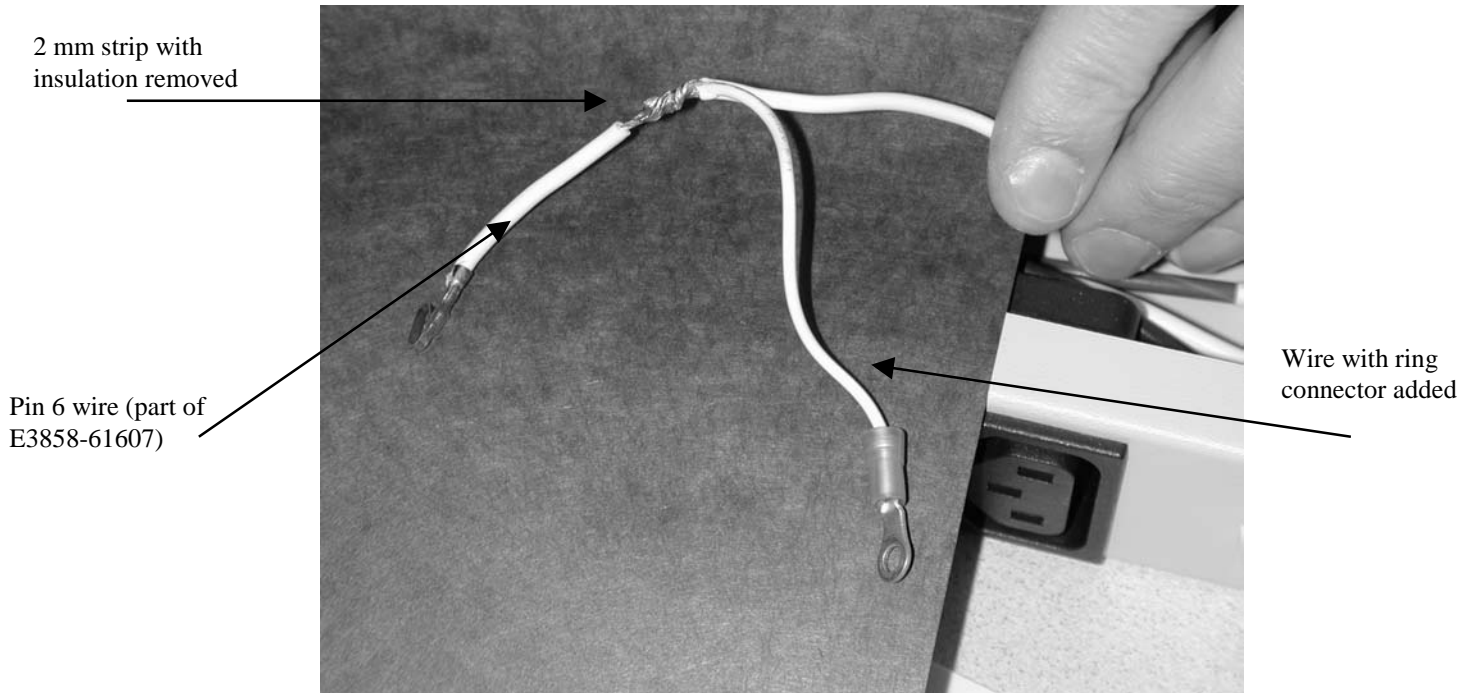

Figure 7. Adding a Wire With a Ring Connector to the Pin 6 (E3858-61607) Wire.
- Remove approximately 2 mm of insulation from the wire starting at 8 mm from the connector pin (Figure 7). Do not cut the wire.
- Connect a ring terminal to one end of the wire. Solder the other end of the wire to the 2 mm strip of the pin 6 wire (part of E3858-61607). See Figure 7.